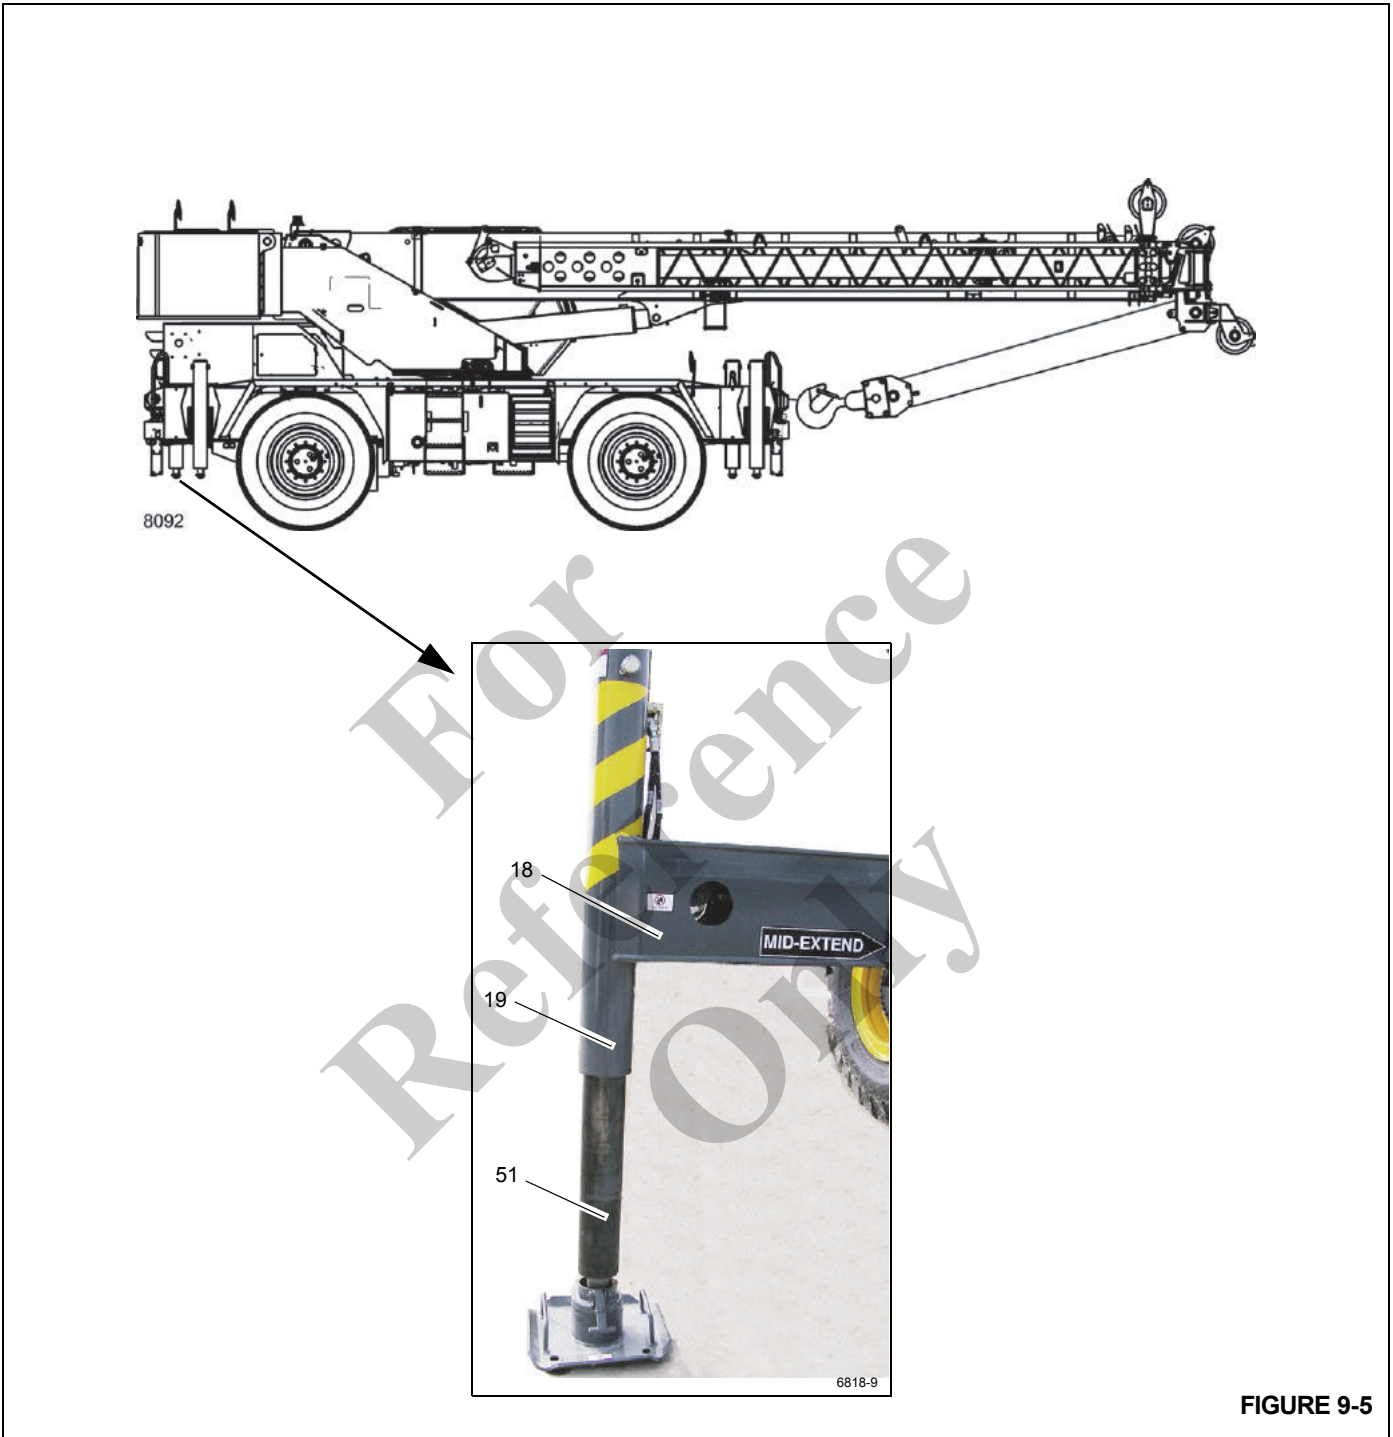

FIGURE 9-5
| 18                | Outrigger Beams             | Figure 9-5 | EP-MPGExtremePressureMultipurposeGreaseA6-829-003477 | ---           | 50 hours or 1 week | Brush lubricant on bottom of outrigger beams   |
| 19                | Jack Cylinder Support Tubes | Figure 9-5 | EP-MPGExtremePressureMultipurposeGreaseA6-829-003477 | ---           | 50 hours or 1 week | Brush lubricant on OD of jack cylinder barrel and wear band before installing jack cylinders     |
| 51                | Jack Cylinder Barrels       | Figure 9-5 | EP-MPGExtremePressureMultipurposeGreaseA6-829-003477 | ---           | 50 hours or 1 week | Brush lubricant on OD of jack cylinder support tubes (4) places before installing jack cylinders |